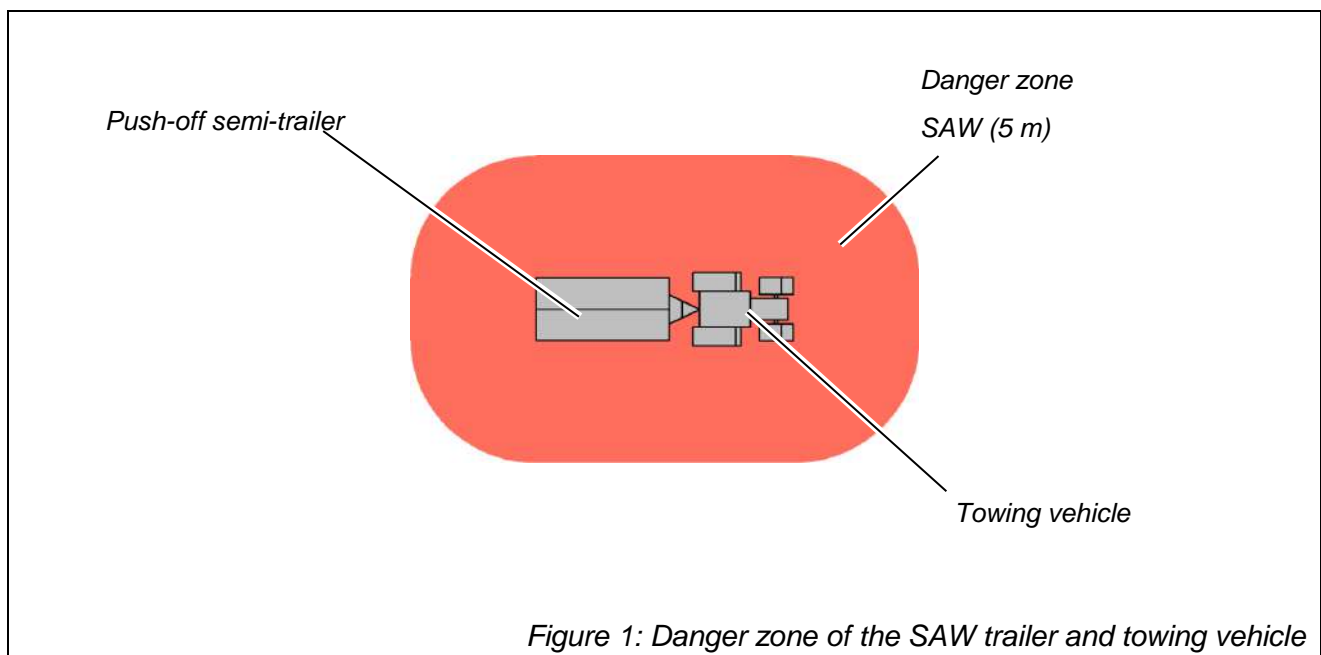

Figure 1: Danger zone of the SAW trailer and towing vehicle
- No-one should be in the danger zone when the plate is being pushed (see Figure 1, Page 17).
The danger zone of the SAW trailer and the towing vehicle (see Figure 1).